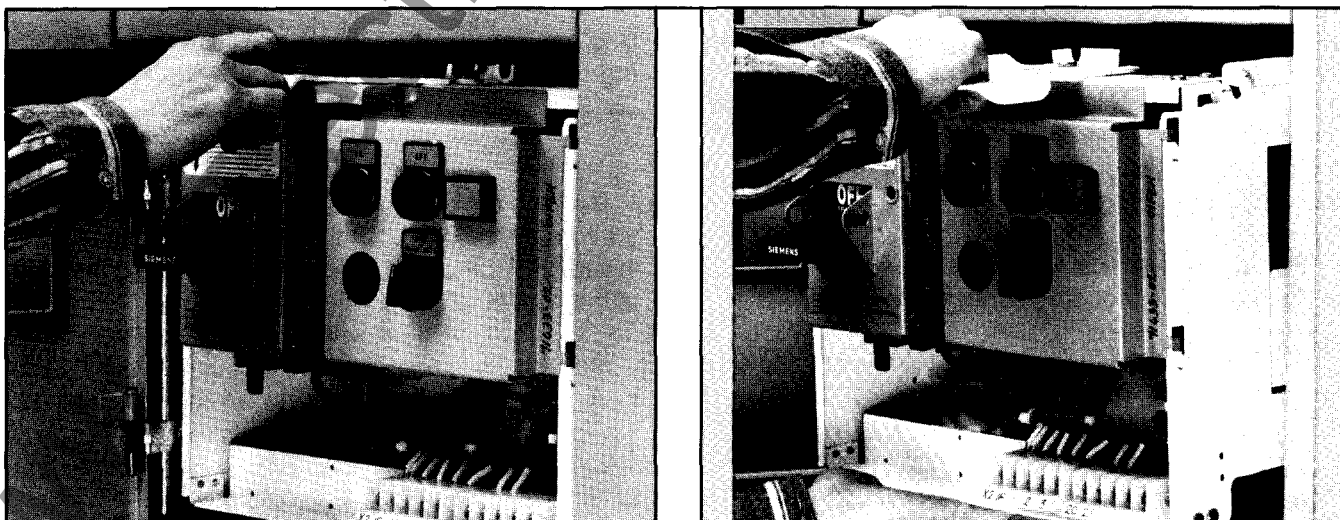

Figure 22. Draw-Out Unit (Pan Assembly) Removal
4. Grasp the handle on the racking cam located on the top of the unit and pull out, rotating the cam until it stops (approximately 90 degrees). This will withdraw the unit far enough to separate the stabs from the vertical bus (Figure 22).